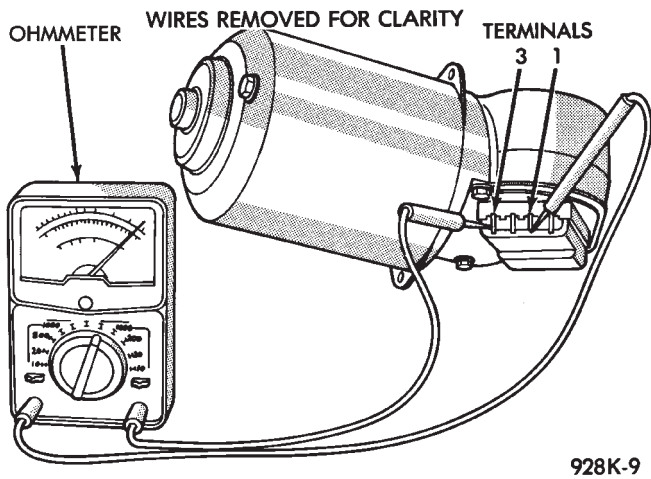

Fig. 12 Ohmmeter Between Terminals 3 and 1
(3) Connect an ohmmeter or continuity tester between terminals 3 and 1 (Fig. 12).